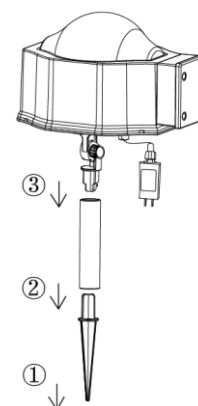

Figure 1
- Attach the adjustable post connected to the bottom of the projector housing to the center section of the stake by inserting into the opening (Figure 1).